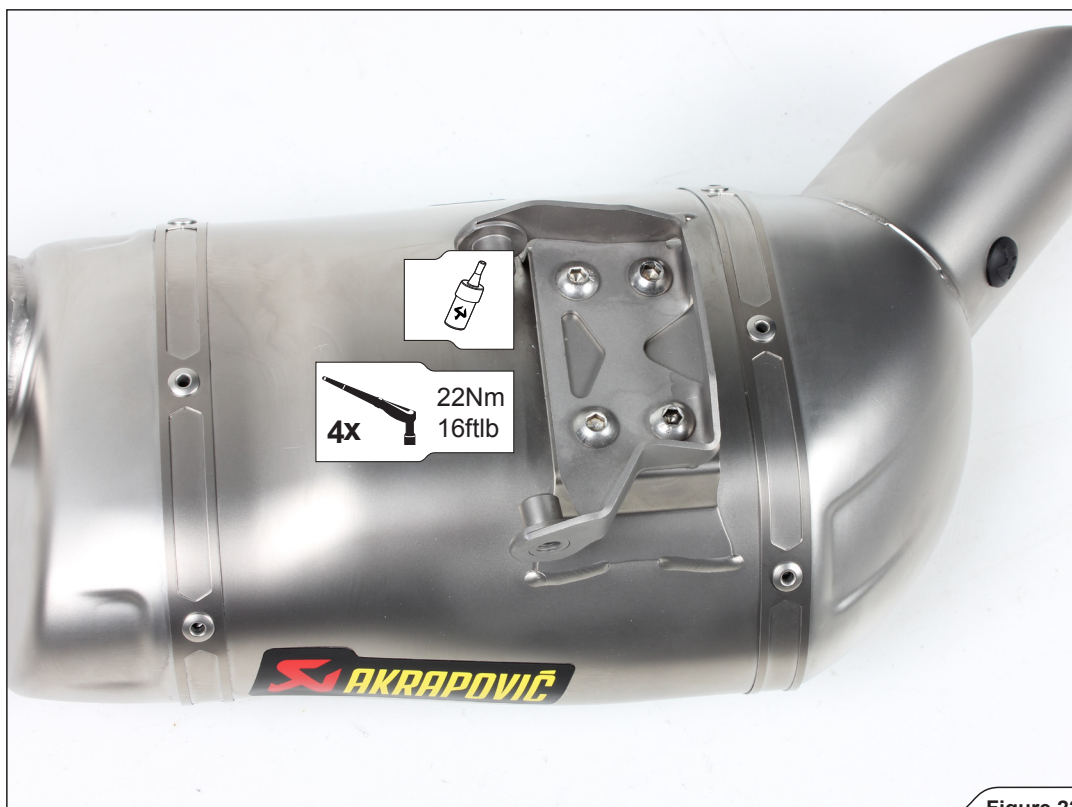

Figure 22
6. Assemble the muffler's bracket onto the muffler, using bolts from Akrapovič installation kit (Figure 22).